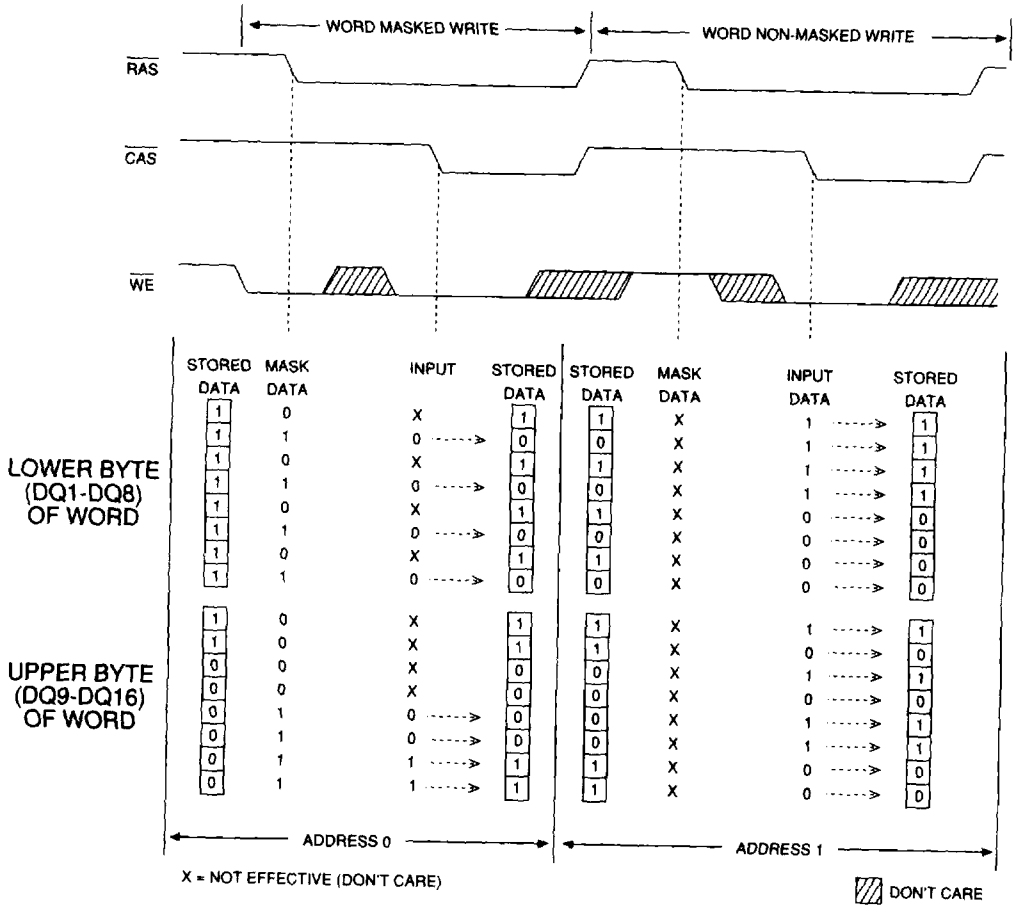

Figure 2
Figure 2 illustrates the MT4C1671 L MASKED WRITE operation (Note: \overline{RAS} or \overline{CAS} time refers to the time at which \overline{RAS} or \overline{CAS} transition from HIGH to LOW).
1. Data-in will be dependent on the mask provided. Refer to Figure 2.